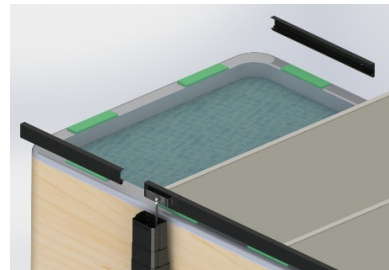

Figure 9
9. Remove the c-channel from the joint support bracket. You can discard those c-channels (Figure 9).